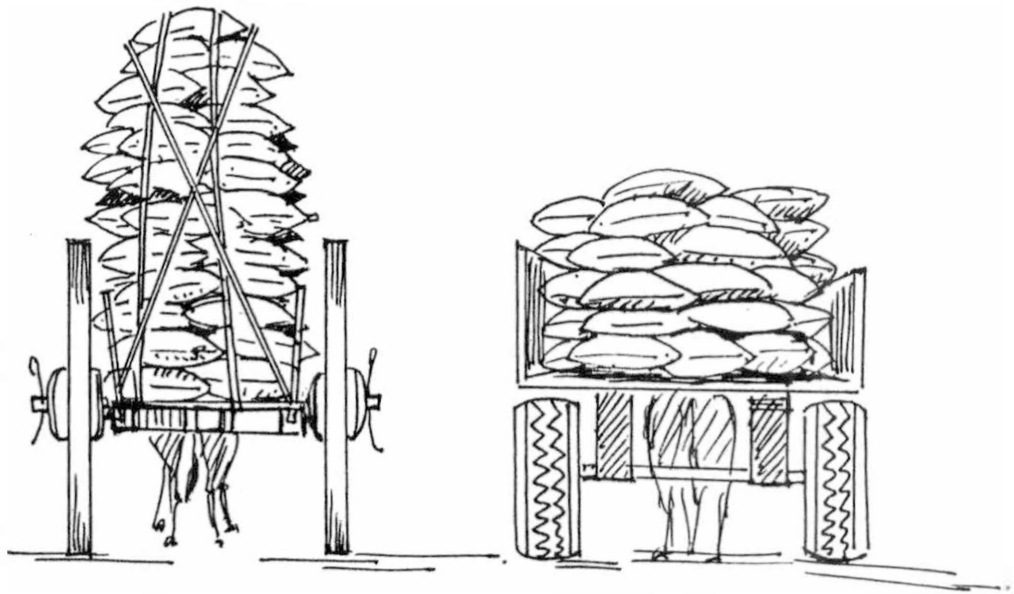

Fig.2.17
2. State which of the two in Fig.2.17 is more stable.